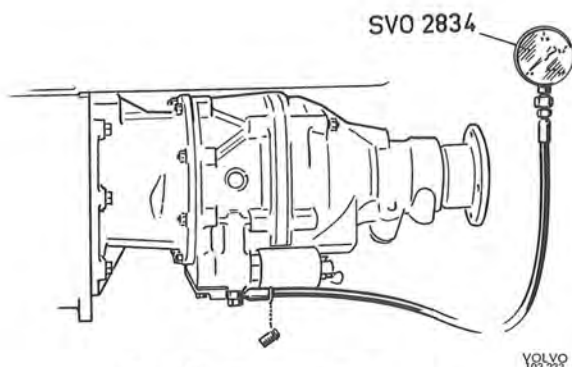

Fig. 4-42. Checking the oil pressure
1. Remove the plug under the operation valve and connect the pressure gauge SVO 2834, see Fig. 4-42.